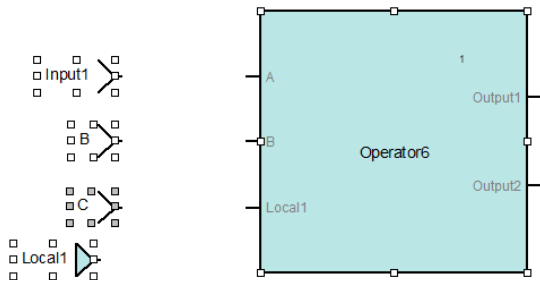

Figure 3.64: Multiselection to connect several inputs to an operator by rank
- 1 Select all the elements to connect as illustrated in Figure 3.64.